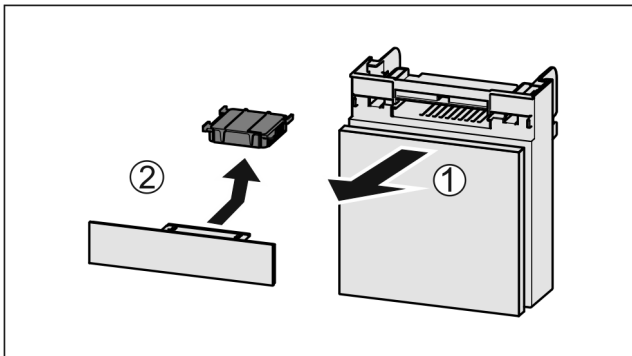

Fig. 140
- ▶ Pull out the compartment *Fig. 140 (1)*.
- ▶ Remove the carbon filter *Fig. 140 (2)*.